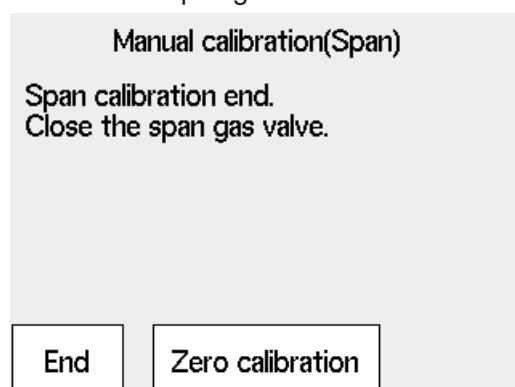

Figure 7.20 Span Calibration Complete
- (5) After the measured value has stabilized, press the [Enter]. The screen of Figure 7.20 appears. At this point, the measured value is corrected to equal the span gas concentration setting. Close the span gas flow valve. The valve lock nut should be tightened completely so that the span gas does not leak.